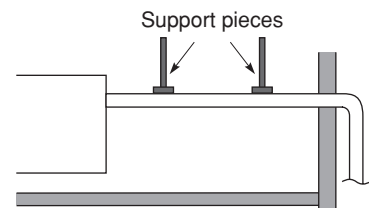

Fig. 3-93
- Do not apply force to the piping on the unit side when connecting the drain pipe. The pipe should not be allowed to hang unsupported from its connection to the unit. Fasten the pipe to a wall, frame, or other support as close to the unit as possible. (Fig. 3-93)